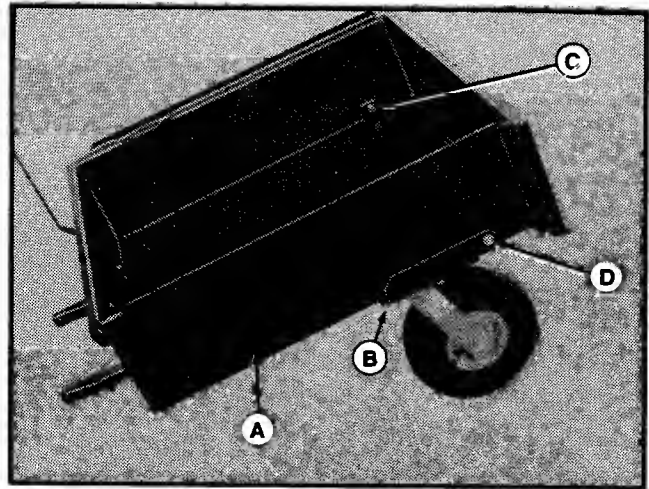

Figure 4
2. Install the cart's box (A, figure 4) to the frame between the two pivot brackets.
- a. Align the hole on each side of the box with the hole in the pivot bracket (B). Install 1/2 x 1 capscrew (C) from inside the box through the pivot bracket and secure with 1/2 locknut (D) on the outside.